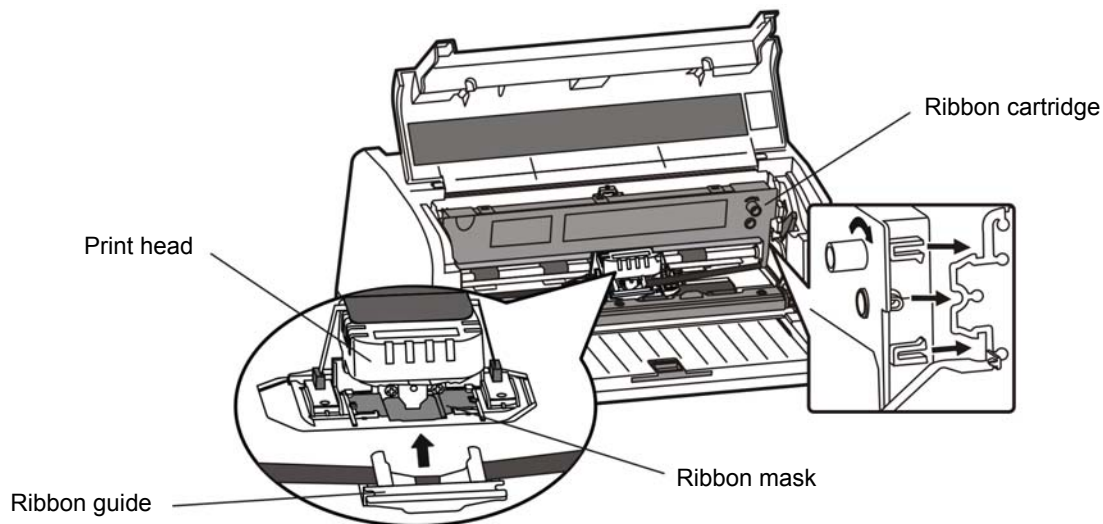

Figure 2-9 Installing ribbon cartridge
7. As Figure 2-9 shown, hold both sides of the ribbon cartridge, aim the buckles of the ribbon cartridge at the mounting slots of the printer, then push it forwards until it lock in place.